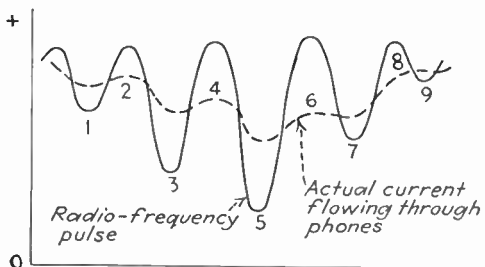
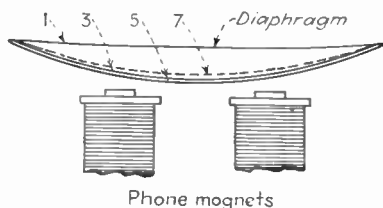

FIG. 143. Pulsating direct current in phones.
FIG. 144. Motion of diaphragm.
the phone coils. The wave-form diagram in Fig. 143 shows several loops of the pulsating plate current. These pulsations flow through the magnets of the phones and set up sound waves.
Loop 2. The first radio-frequency pulsation, (2) in Fig. 143, will create a weak magnetism in the phone magnets, which bends the diaphragms inward slightly. The motion of the diaphragm is shown in Fig. 144.
Space 3. In Fig. 143 the space between loops (3) in the wave-form picture shows the time when less current is flowing.
Summary. The average effect from a group of radio-frequency pulsations of the plate current is to exert a single pull on the diaphragms of the phones. The drawing in Fig. 144 shows the effect several groups of pulses will have on the phone diaphragms. The radio-frequency pulses are blended into a motion of the diaphragms that reproduces the sounds "carried" by the radio-frequency pulsations.
The heavy dotted line in Fig. 143 shows the wave picture of an imaginary current which represents the average of the amplitude of the radio-frequency current loops and the spaces between loops.
1. Which line in the wave-form picture (Fig. 143) represents the current actually flowing through the phones?
4. Explain how each succeeding loop, in the group of loops in Fig. 143, adds to the pull of the one just before it.